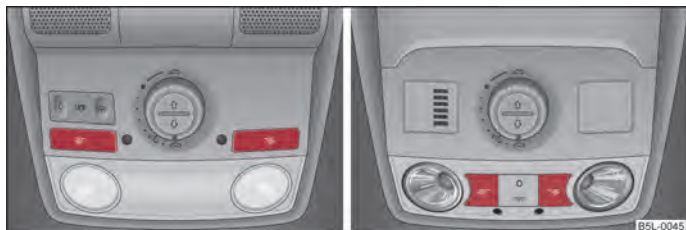

Fig. 32 Reading lights
- Press switch ☞ ⇒ fig. 32 to switch the reading lights on/off.